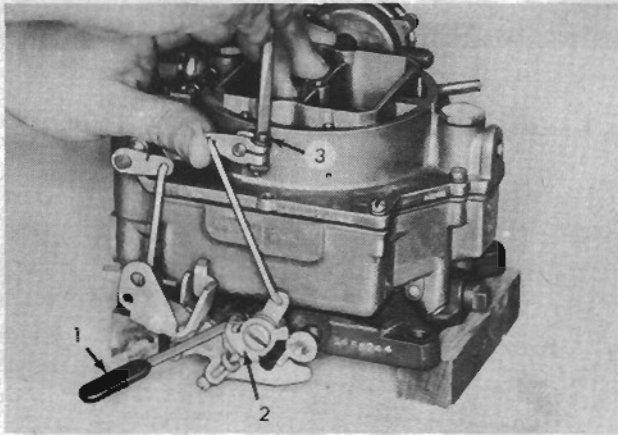

FIG. 103
Fast Idle—Loosen the choke lever clamp screw (3, Fig. 103) on the choke shaft. Insert a feeler gage (1) between the lip of the fast idle cam (2) and the boss of the flange casting. Use a $.020''$ (0.51 mm.) gage for President Y and Skyhawk and $.025''$ (0.65 mm.) for the Goldenhawk. Hold the choke valve closed and take the slack out of the linkage by pressing the choke lever toward the closed position. Hold in place and tighten the clamp screw (3).